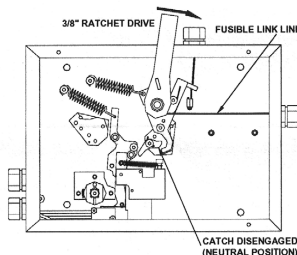

Figure 7.
6. Check that the Catch is in the neutral position, so that the Detection Arm Assembly engages the Catch properly. See Figure 7.